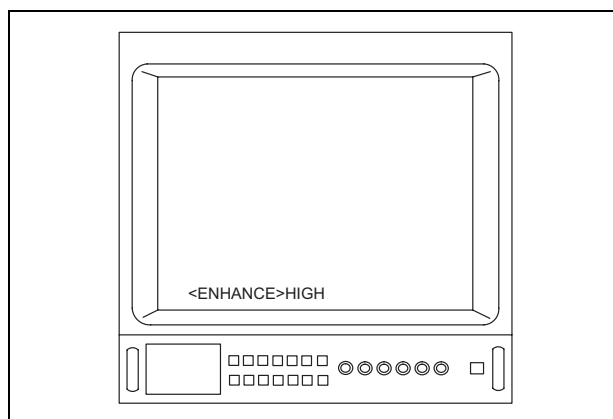

Figure 5.39
Press the "F6" key. Each time the "F6" key is pressed, the mode cycles through "OFF", "LOW", "MEDIUM" and "HIGH". Then, the menu shown in Figure 5.39 is displayed on the video monitor.
The menu shown in Figure 5.39 is displayed when the image enhancement level is "HIGH". Depending upon the image enhancement level, the menu shown in Figure 5.39 may appear different from that displayed on the video monitor.
- When setting the image enhancement using the remote control switches, the menu shown in Figure 5.39 is displayed on the video monitor.